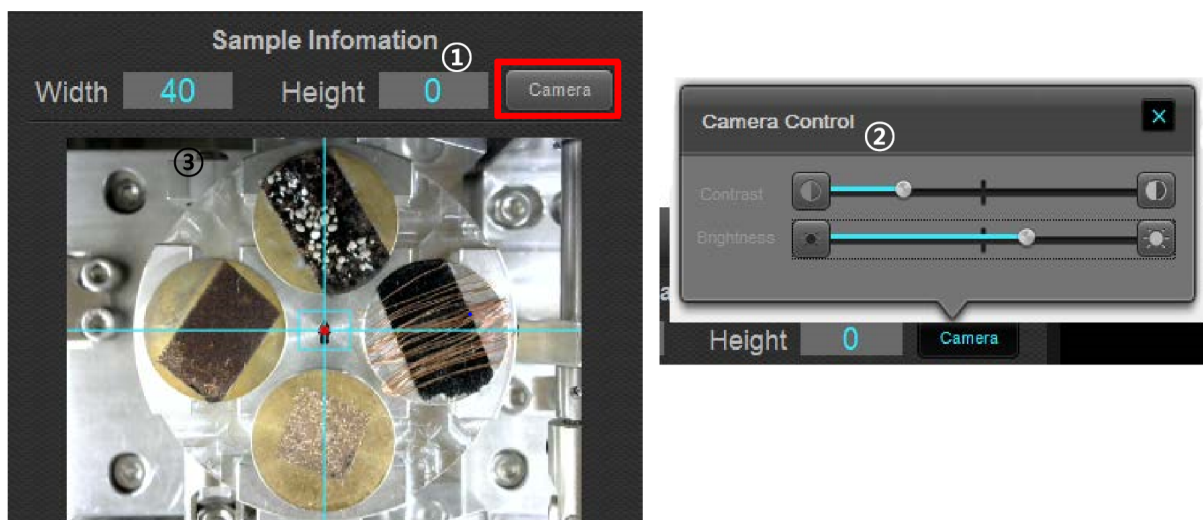

Figure 6. Display windows of the navigational camera operations.
- b. In **Nanoeye**, click the “**Camera**” button and the screen display will show the specimen (Figure 6).
- c. With the camera activated, right click the “**Camera**” button to activate the brightness/contrast menu (Figure 6).